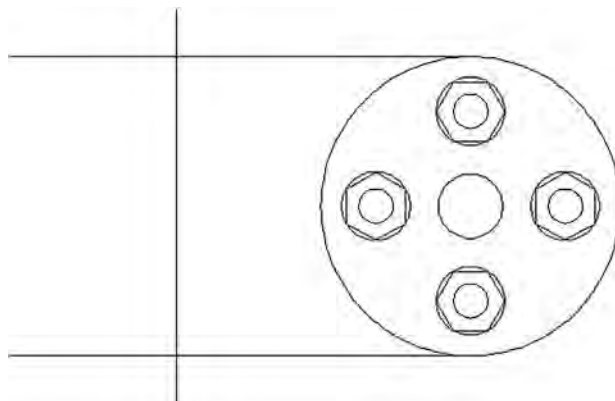

FIGURE 8.27
- Step 7.** You now have to project the main body of the part based on this top view. The best way is by drawing two horizontal guidelines, of any length, starting from the top and bottom quadrants of the big circle; then, draw an arbitrary vertical line to mark the beginning of the part on the right, as shown in Figure 8.27.